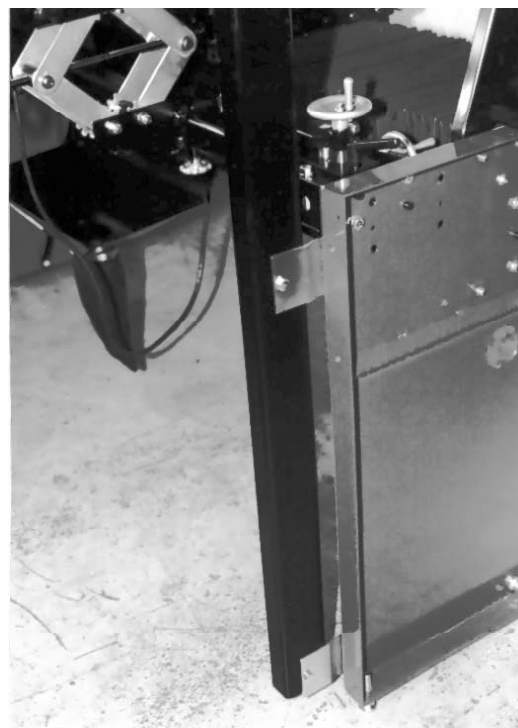

FIG. 13
Bolt the left and right end frames to the top and bottom mounting brackets already attached to the end panels using four (4) 3/8-16 x 3/4" hex head cap screws, lockwashers and nuts. See FIG. 13. The mounting bracket might have to be loosened and adjusted to line up with the end frames. Bolt gussets loosely to the overhead channel, which is installed with the pulleys on top, using eight (8) 3/8-16 x 3/4" long hex head screws, lockwashers and nuts. Lift overhead channel into position and bolt to end frames using eight (8) 3/8-16 x 3/4" long hex head screws, lockwashers and nuts. Align and securely tighten all nuts. Attach winch to the left inside of the left vertical member as viewed from the operator's position with the crank handle facing to the rear. See FIG. 15. Install the winch mounting bracket, two (2) 3/8-16 x 2-1/4" long hex head cap screws and flatwasher, lockwashers and nut. The flatwasher goes over the winch housing slot. Mount handle to the winch, as per the winch instruction sheet.